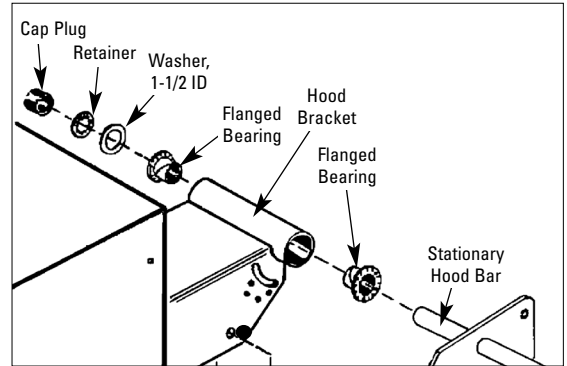

Figure 2 - Hood Assembly Installation
8. Slide one flanged bearing onto the stationary hood bar; flange to cam (figure 2).
10. Slide the other flanged bearing into position followed by the washer, retainer and cap plug (figure 2).